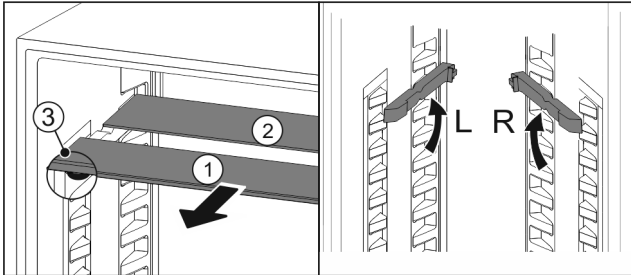

Fig. 111
- ▶ Pull the glass panels out Fig. 111 (1) from the front, one at a time.
- ▷ The glass panel Fig. 111 (1) with the trim strip is at the front.
- ▷ The stops Fig. 111 (3) point downward.